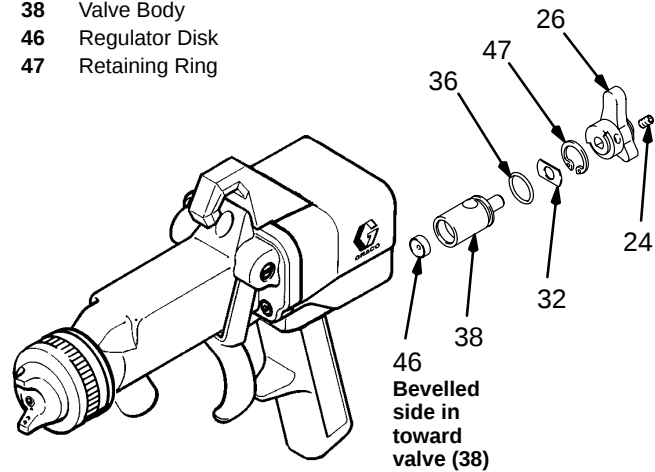

Fig 28
1. Loosen the set screw (24) with the 2 mm hex key (69) provided. Remove the lever (26) from the valve. See Fig 28.